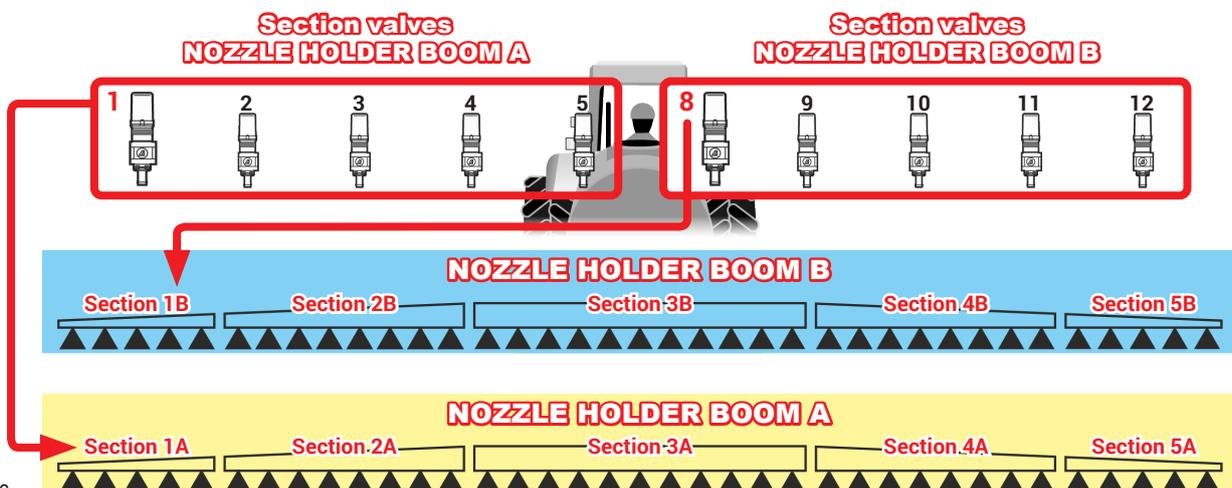

Fig. 22
For all booms with a number of sections lower than 7, Fig. 22) connector 8 must ALWAYS pilot the valve connected to section 1 of the second boom (B): boom section 1 is the leftmost one when looking at the machine from behind.